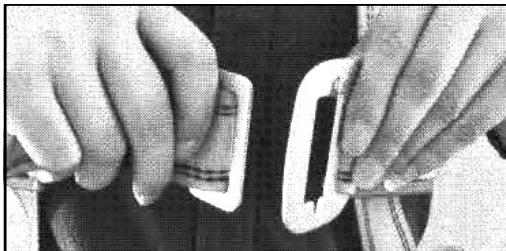
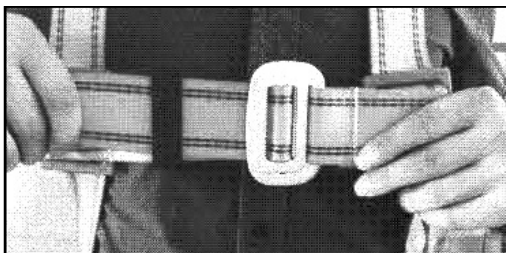

Fig. 8
Fig. 10
## 6.6 Buckle connection (Fig.8 – Fig.10)
- 1. Use the loose end of the webbing for adjustment and always locate on the outside away from the user (Fig.8).
- 6. Then move the slider on the chest strap up to the buckle and tuck in any excess webbing. (Fig.10).